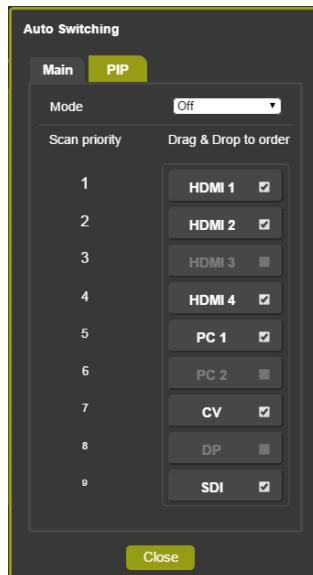
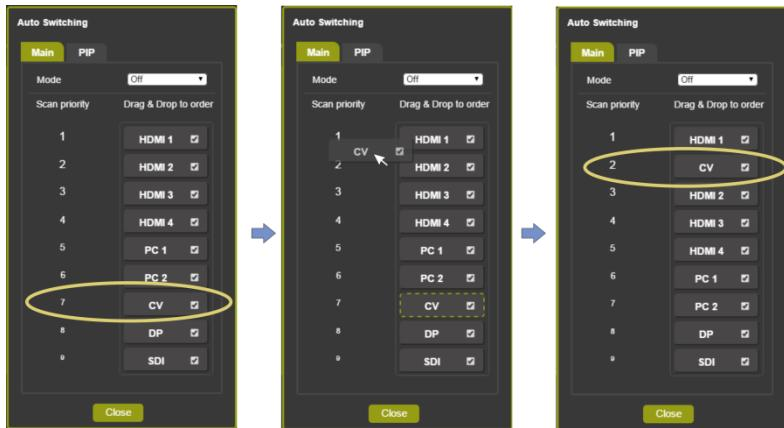

Figure 50: The Routing & Scaling Page – selecting the Inputs to Scan (PIP Tab)
Figure 51: The Routing & Scaling Page – Auto Switching Window
- **Scan** mode to scan through the inputs in search of a valid input signal. In the scan mode you can select which of the inputs will be included in the scan (see Figure 50) and also change the order of the scanned inputs (see Figure 51)
You can change the priority order as well by dragging an input button and dropping it in a new location, as illustrated in the example in Figure 51. In this example, CV is moved up in the priority list to be scanned for a valid input after HDMI 1.